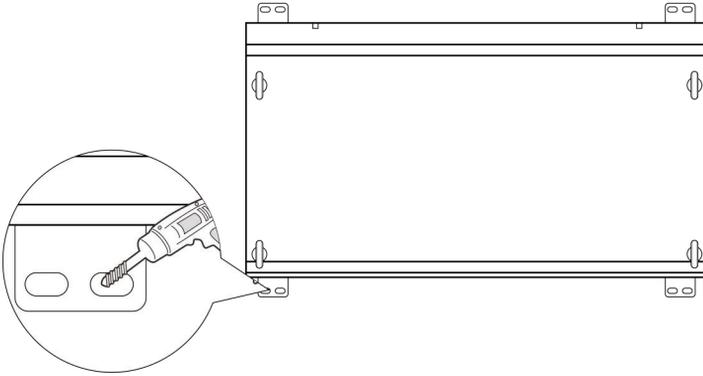

Figure.2-2
3. After the step 2 is finished, you need to drill 8 holes on the ground using an electric hammer. (Figure.2-2)